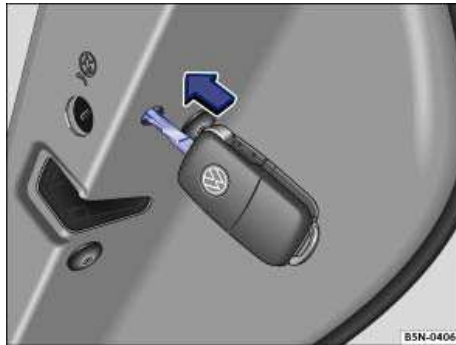

Fig. 184 On the front side of the right rear door: Manual vehicle locking with the key bit in the vehicle key.
- Insert the key bit horizontally into the opening and press the small colored lever forward ⇒ fig. 184.